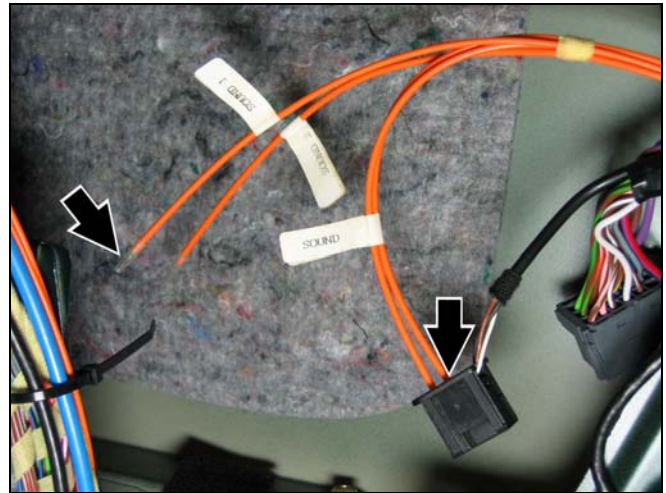

Figure 18
2. At the sound system control module (Figure 18) in the right well of the trunk, configure the MOST ring according to Figure 51 (see below).